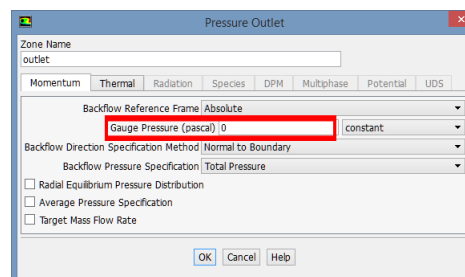

Figure 43: Pressure value at the *pressure-outlet*.
- (b) For the (fluid) *outlet*, select *outlet* from the *Zone* selection list, for the *Type* select *pressure-outlet* and click *Edit*. As illustrated in figure 43, in the *Pressure Outlet* dialog box, leave the *Gauge Pressure* equal to 0 *Pascal*, and leave all other parameters for the *Momentum* tab as the default.